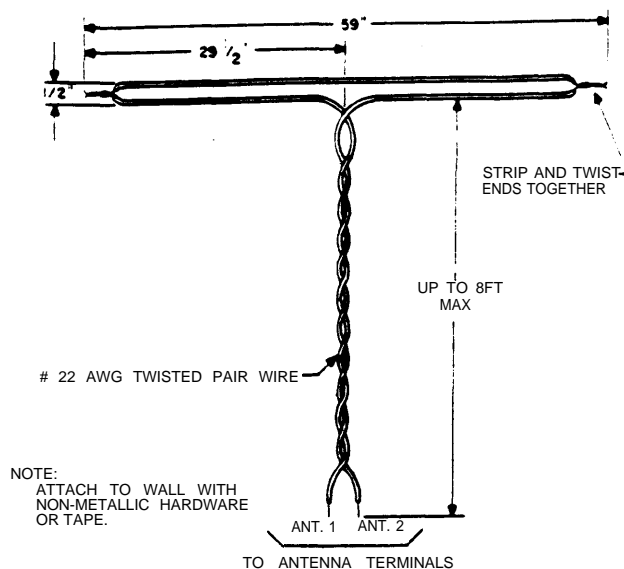

Fig. 27—Suggested Indoor FM Antenna
5.16 FM Tuner Card Antenna Connections: If the FM Tuner card is provided and an outdoor antenna is available, connect it across terminals **ANT1** and **ANT2** of connecting block A. Otherwise provide the indoor antenna arrangement shown in Fig. 27 unless the built-in FM antenna will be adequate. Some locations may require a more extensive antenna system.
5.26 FM Tuner: In addition to the operating controls, the FM Tuner Card (Fig. 10) contains an option switch for the antenna. Set the **ANT** switch to **INT** if the tuner will utilize the PagePac's built-in antenna. Otherwise set the switch to **EXT** and connect either an outdoor antenna or the antenna of Fig. 27 to terminals **ANT1** and **ANT2** of connecting block A.